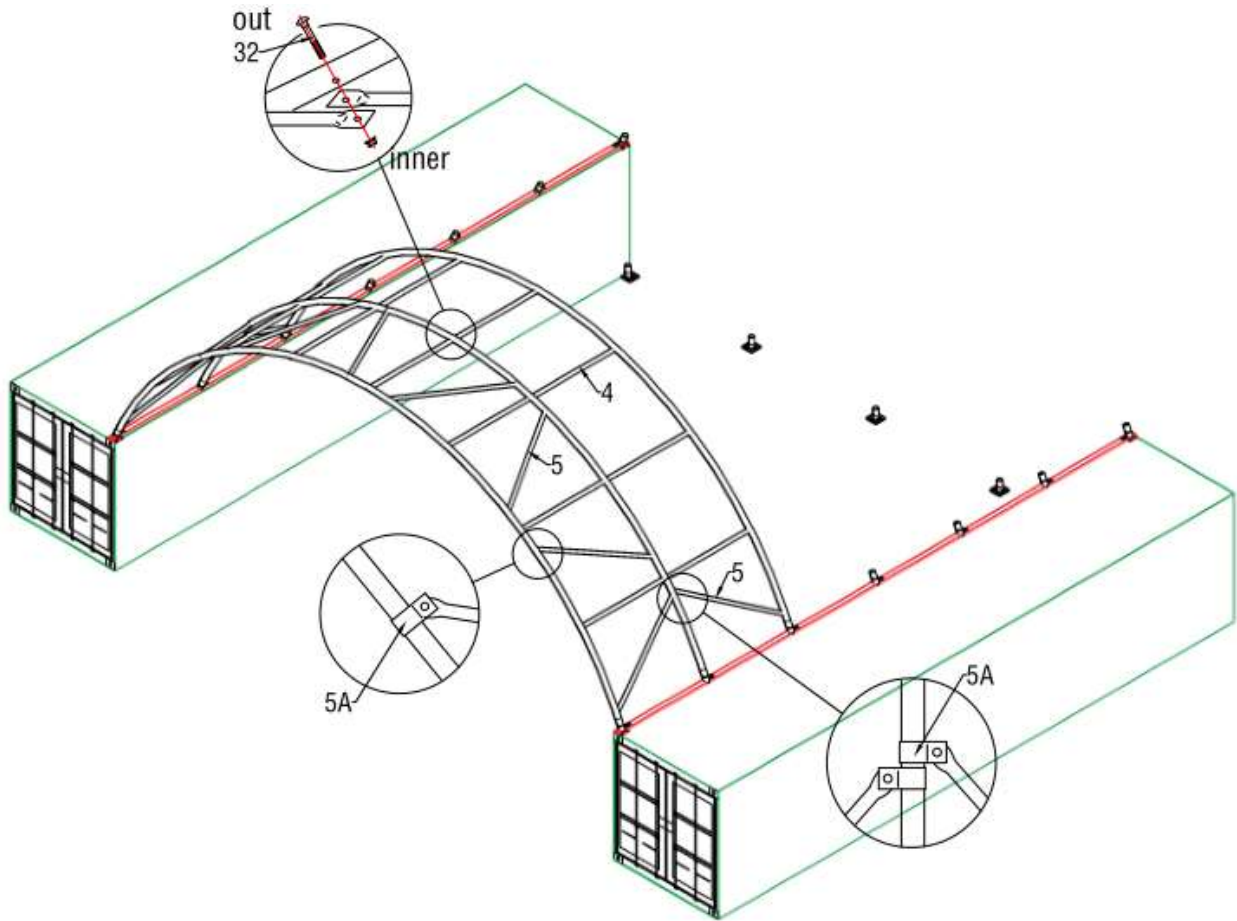

Figure 5
3. By turns, fix the second group of arch frame like this step.After putting and fixing the second group of arch frame into plates, connect the purlin(No.5) onto them by using bolt M12x110 (NO.32) . Connecting purlins for roof frame like the Figure 5 as below. By turns, install all other groups of arch frame.